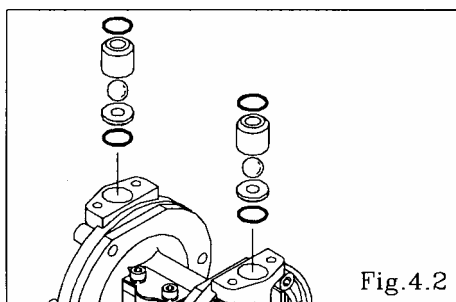

Fig.4.2
- Remove the O ring, valve stopper, ball and valve seat. [Fig.4.2]